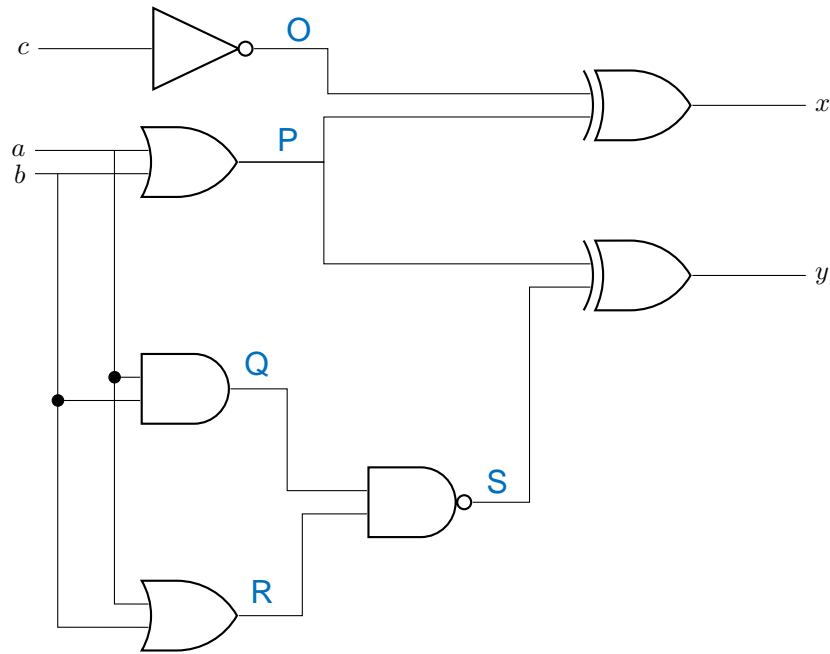

Fig. 2.17: Circuit to be implemented.
1. Implement the circuit shown in Fig. 2.17 on QuestaSim and verify it's truth table.
- (a) Truthtable of the circuit shown in Fig. 2.17.
2. System Verilog code of the given circuit in Fig. 2.17 using structural coding (using primitives such as AND, OR, etc., gates).